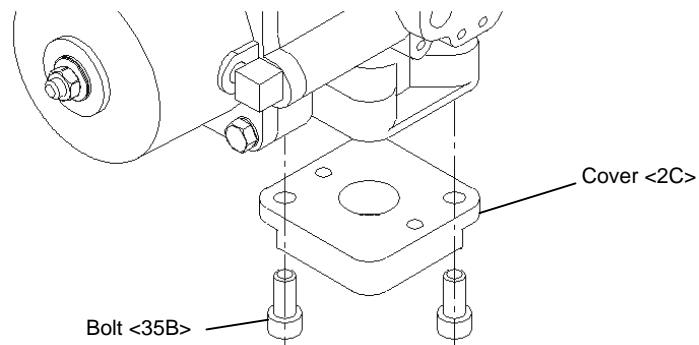

Fig.7
(5) Remove the cover from the housing (Fig.7).